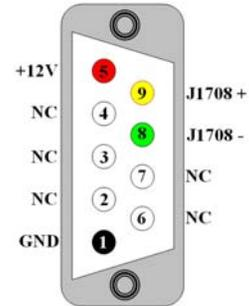

Figure 1-2 BUS Side DB9 male connector
Au SAE J1708/J1587 Simulators, a family of well designed devices, are capable of simulating most frequently used J1708/J1587 signals on J1708/J1587 network for new product development, validation, assembly-line testing, incoming inspection and business demonstration, etc. Au J1708 simulator can be connected to a J1708 network at the 9 pin "BUS" connector. The pin-out of the DB9 male "BUS" interface is illustrated in Figure 1-2.
- **1 DB9 Male "BUS" Interface:** For power supply and J1708 network connection, pin-out of the DB9 Male bus interface is illustrated in figure 1-2.